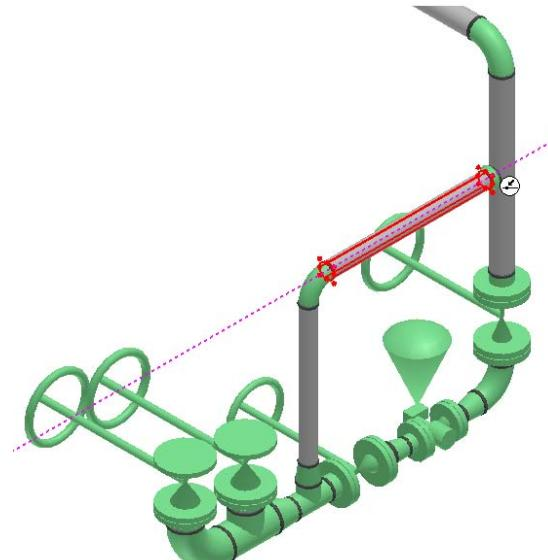

Figure 95: End of the By Pass Line
60. Specify the end of the by pass line by using the SmartSketch options of SP3D, as shown in Figure 95.